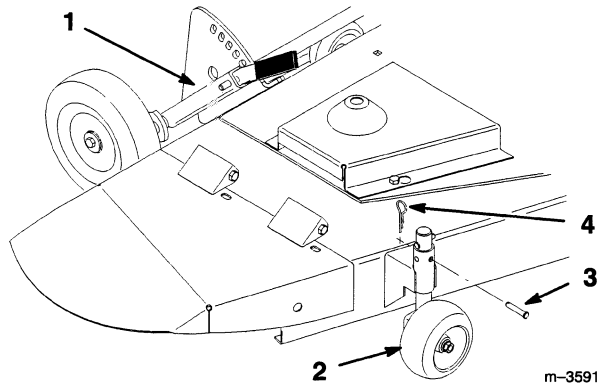

Figure 3
1. Place the height-of-cut lever on the mower to the position for lowest cut (Fig. 3).
3. Set the height of the two front mower wheels and turn the wheels parallel to the mower by removing the clevis pins and hairpin cottes, then turning and raising or lowering the wheels until you can put the clevis pins and hairpin cottes in the third position from the top (Fig. 3).